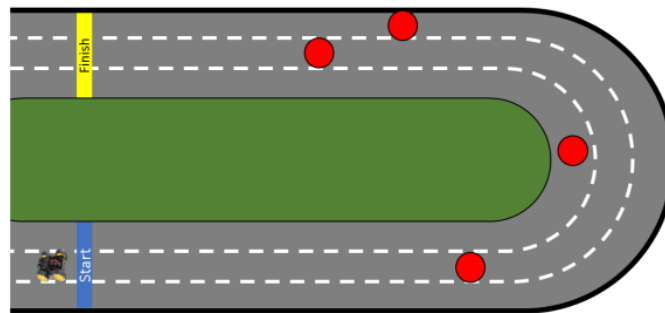

Figure 4 - Individual Racing Race Track (Demonstration only, the actual track may differ)
- A racetrack will be built, it will contain outside guiding walls and white lines on the ground (depicting an actual road). “Figure 4 - Individual Racing Race Track” shows a general idea of the race track. The actual track shape will remain anonymous. Students must build a navigation system that works in all environments.
- “Figure 4 - Individual Racing Race Track” shows an illustration of the race track.
- The cars should autonomously stop at the finish line (marked with a 4cm yellow line on the track as shown in Figure 4).